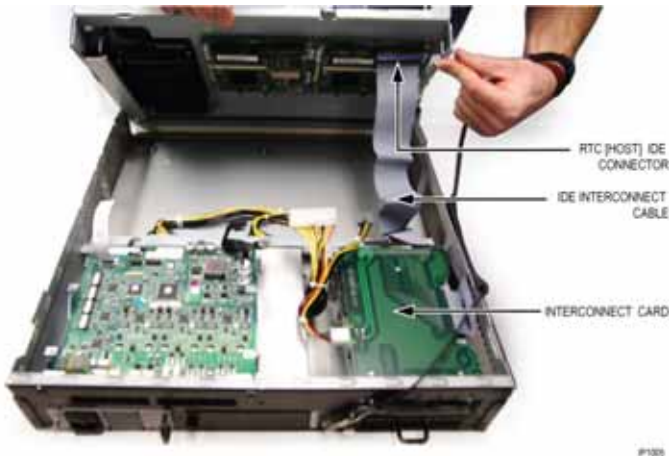

Figure 69: Disconnecting the IDE Interconnect Cable - MXe II/Server
- For the MXe II, disconnect the IDE interconnect cable from the RTC (host) IDE connector (see Figure 69).